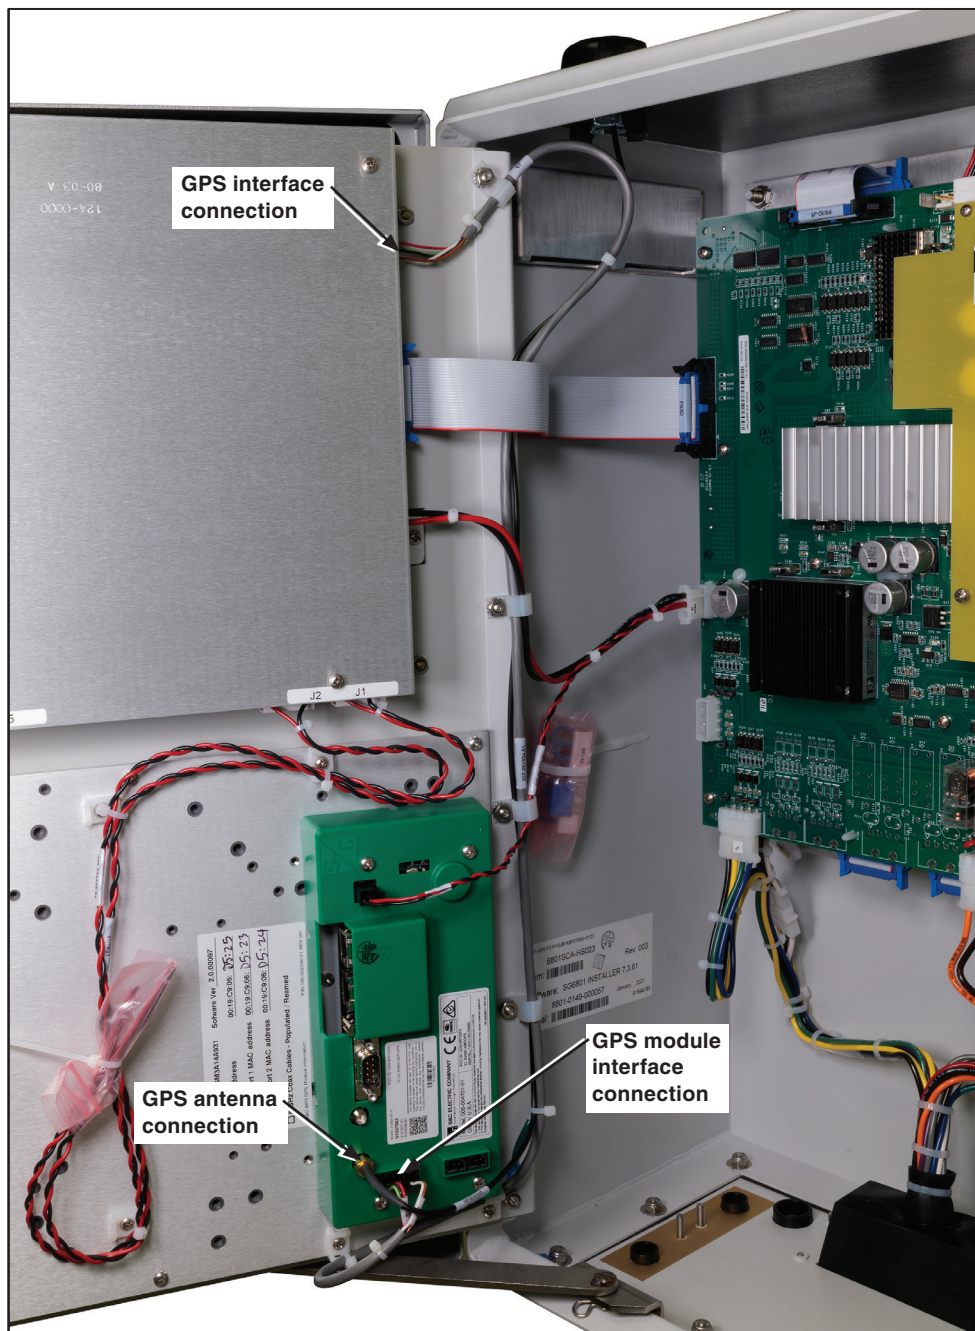

Figure 5. GPS interface connections (6801 control shown).
STEP 11. Connect the GPS antenna cable to the GPS connector on the back of the front panel. See Figure 5 on page 11.